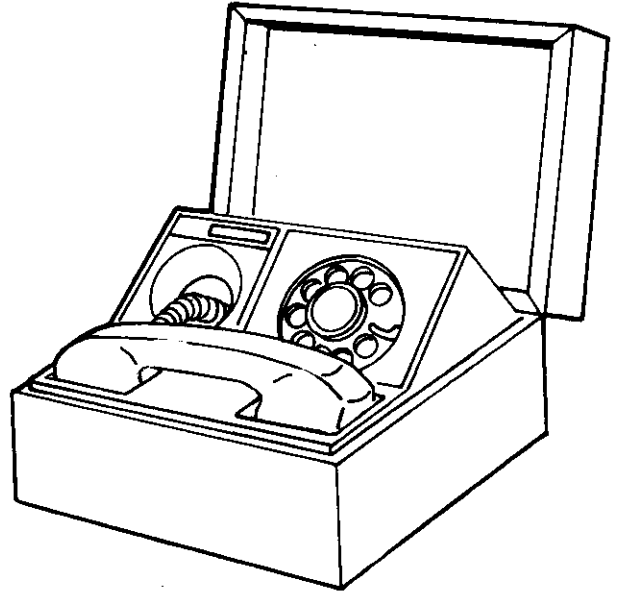

Figure 2. Chestphone.
2.04 The Chestphone (Figure 2) is a self-contained telephone set housed in a wooden chest measuring approximately 5-1/4 inches high, 10-3/4 inches wide and 8 inches deep.